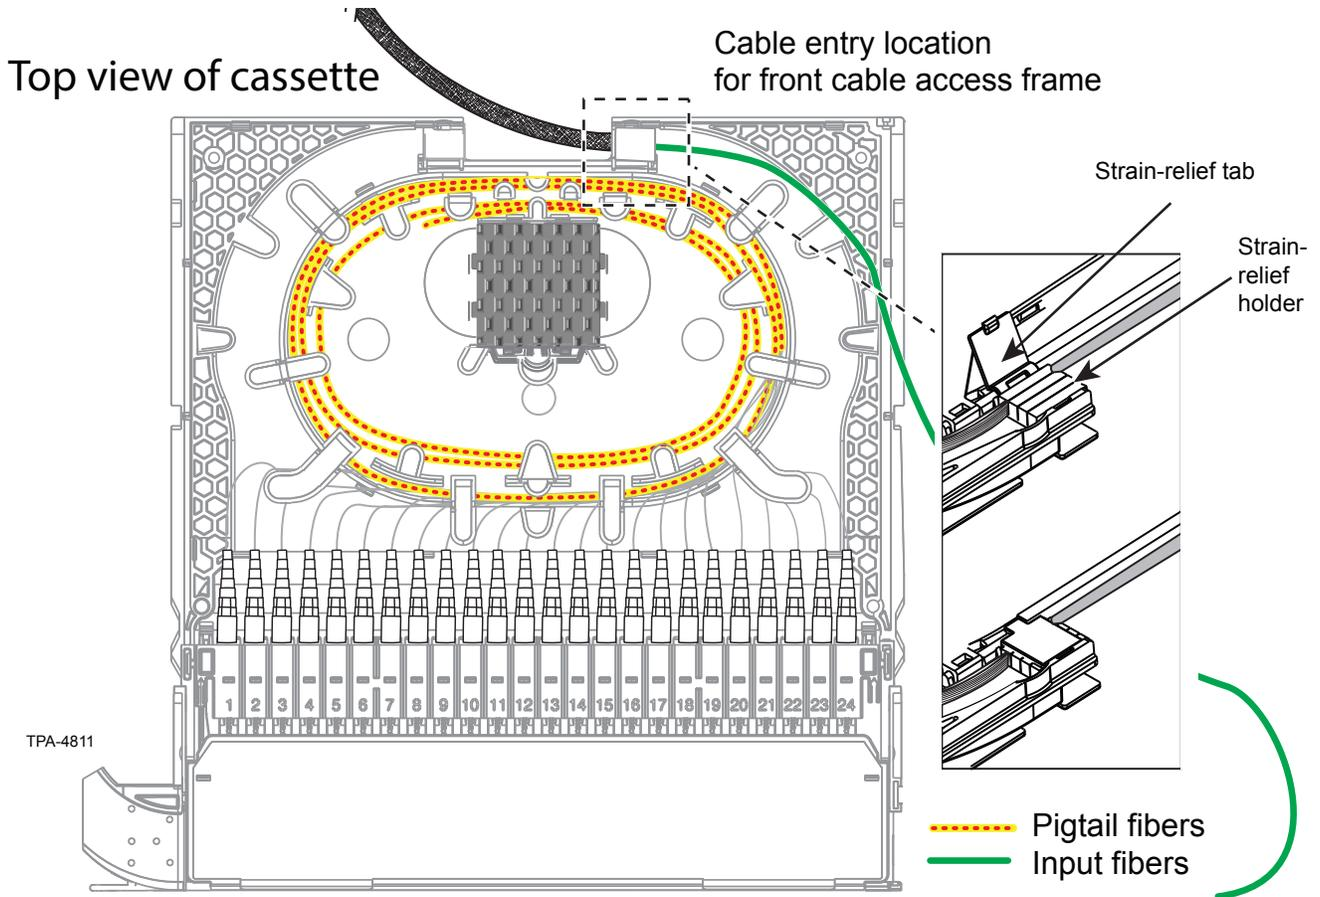

Figure 52
**Step 7:** Secure the end of the transport tube holding the input fibers in the strain-relief holder (Figure 52). Press the strain-relief tab closed to secure the fibers.